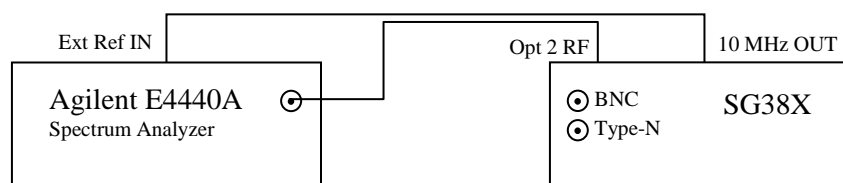

Figure 15: RF doubler frequency test.
This test verifies the signal generation of the option-2 RF doubler. It uses the Agilent E4440A spectrum Analyzer to verify the frequency generation of the doubler. This test requires the setup shown in Figure 15.
1. Connect the equipment as shown in Figure 15